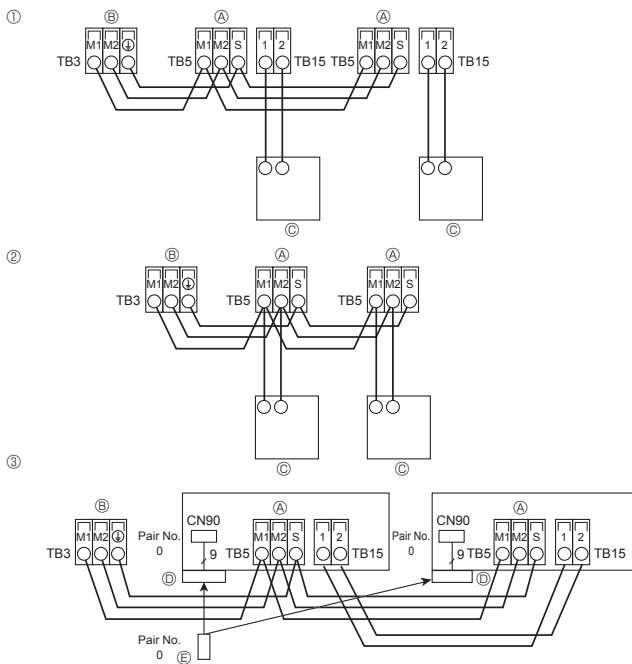

Fig. 5-3
5.4. Connecting remote controller, indoor and outdoor transmission cables (Fig. 5-3)